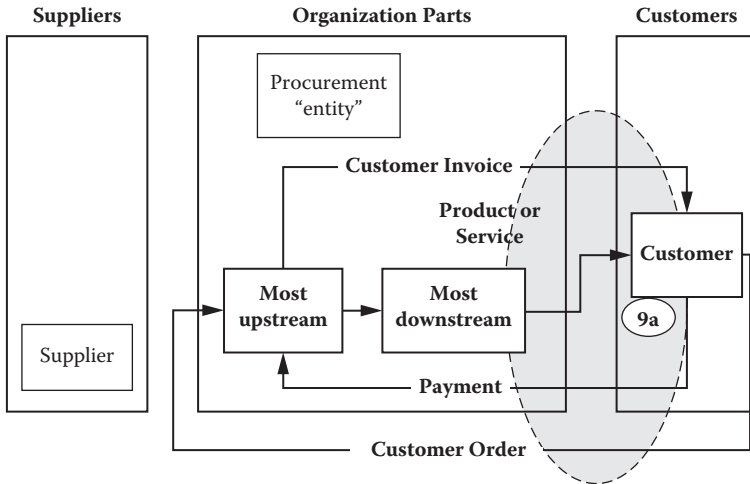

Figure 4.14 External customer touch points highlighted in typical Order to Delivery sequence.
- External customer (Figure 4.14)